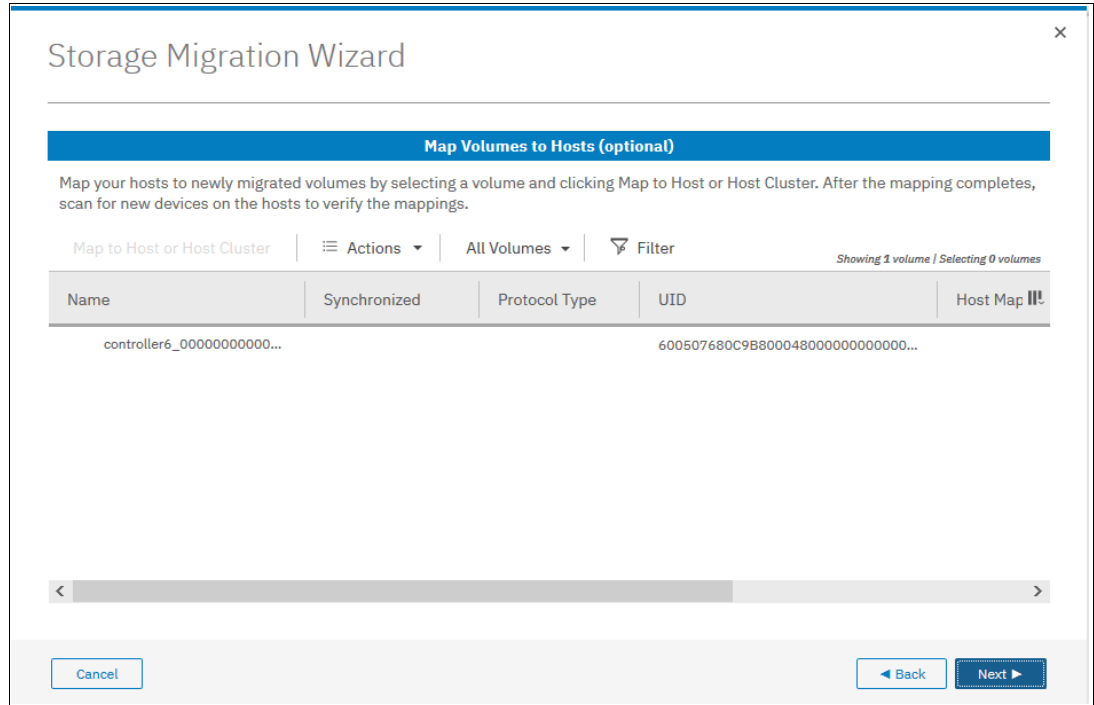

Figure 7-20 Map Volumes to Hosts window
1. Hold Ctrl and click the volume names to select multiple volumes. Click **Map to Host** to open the Create Mapping window. Figure 7-20 shows the Map Volumes to Hosts (optional) window.